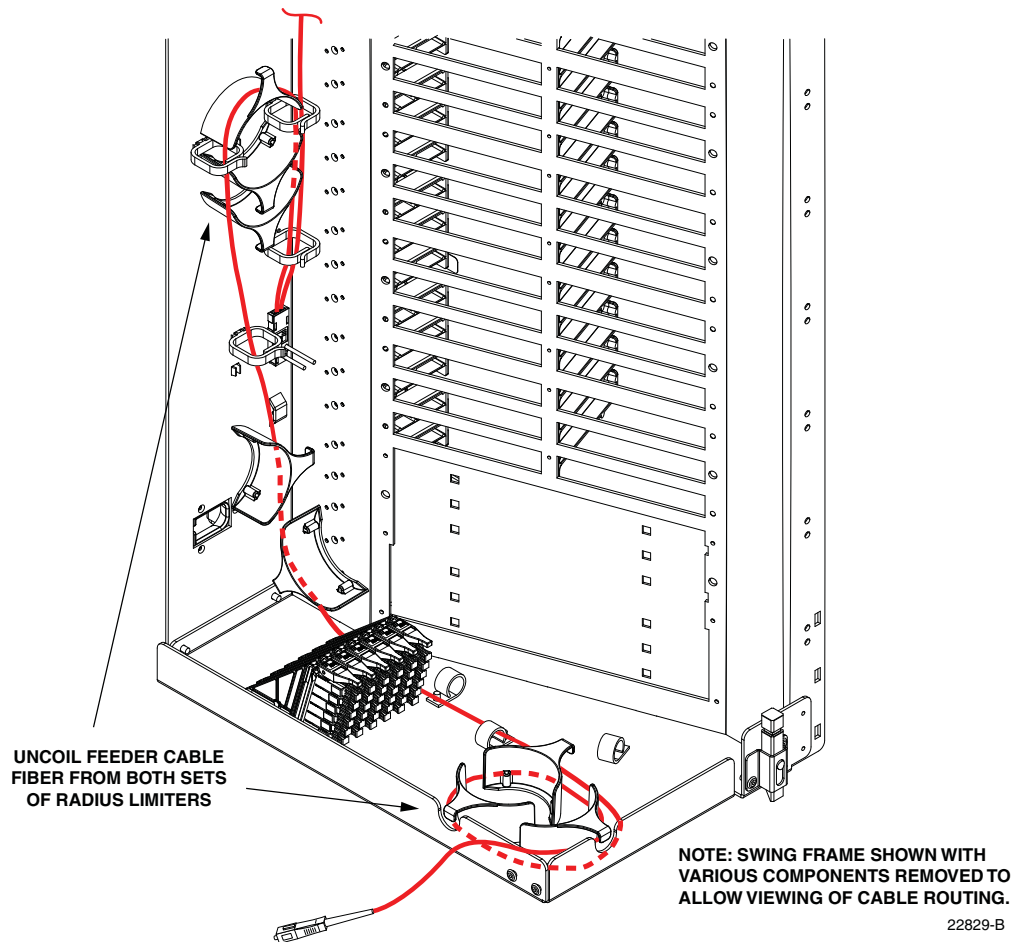

Figure 56. Uncoiling the Feeder Cable Fiber
6. Carefully unwind the feeder fiber from the radius limiters located on the bottom and on the left side of the swing frame. Figure 56 shows the section of the fiber that will need to be released for re-routing. When necessary, backfeed the fiber to free the connector from the remaining fibers.